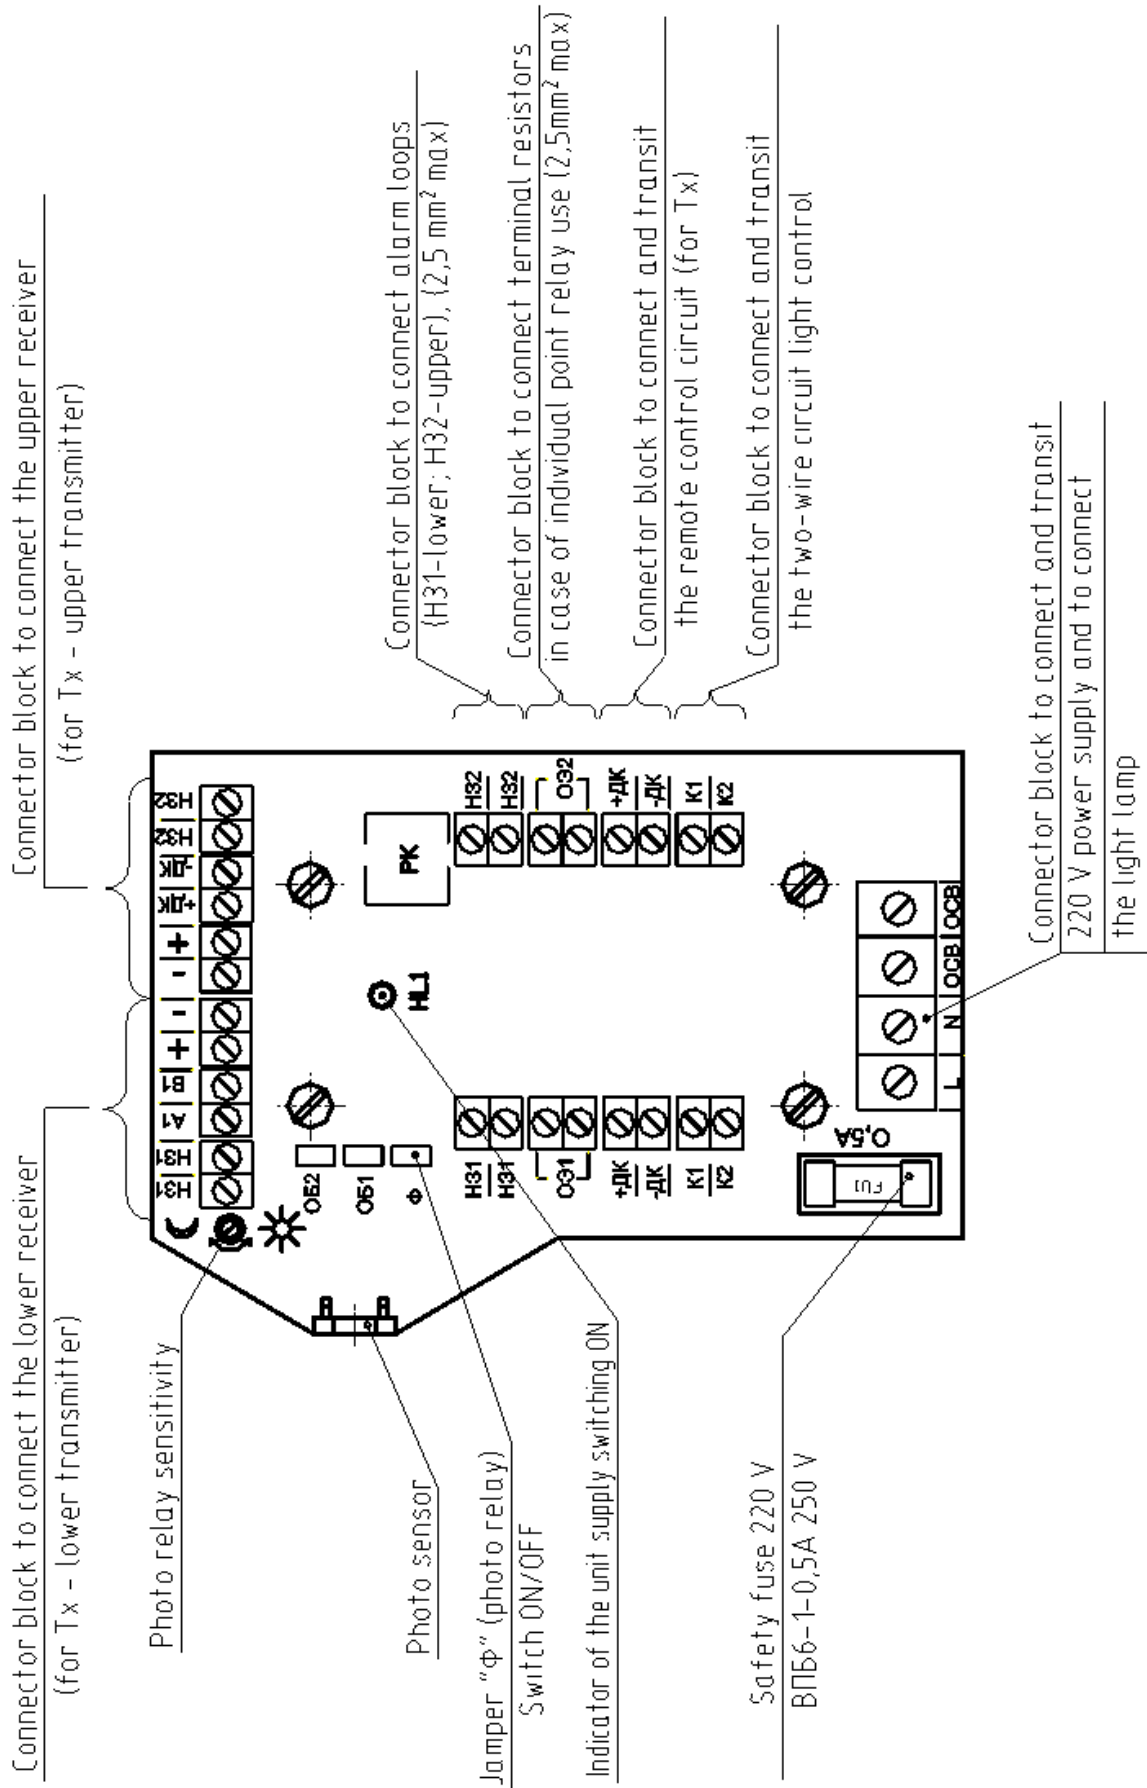

Fig.8.2
8.3.1. Connect necessary supply lines and alarm lines. Layout and purpose of switching units are given in fig.8.2.